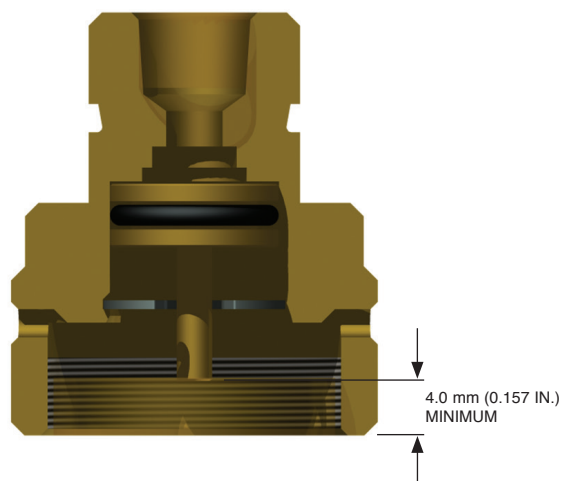

FIGURE 6-18
1. Check that the actuation pin is in the non-fired position. See Figure 6-18.